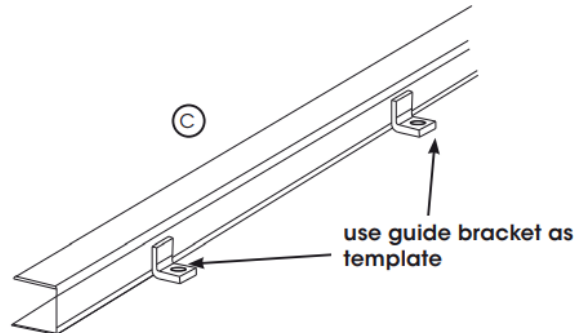

Fig: 2.5.3
b) Using the guides brackets as a template (Fig 2.5.3) mark out and drill holes in the wall to match the spacing of the fixing bolt holes in the guides bracket.